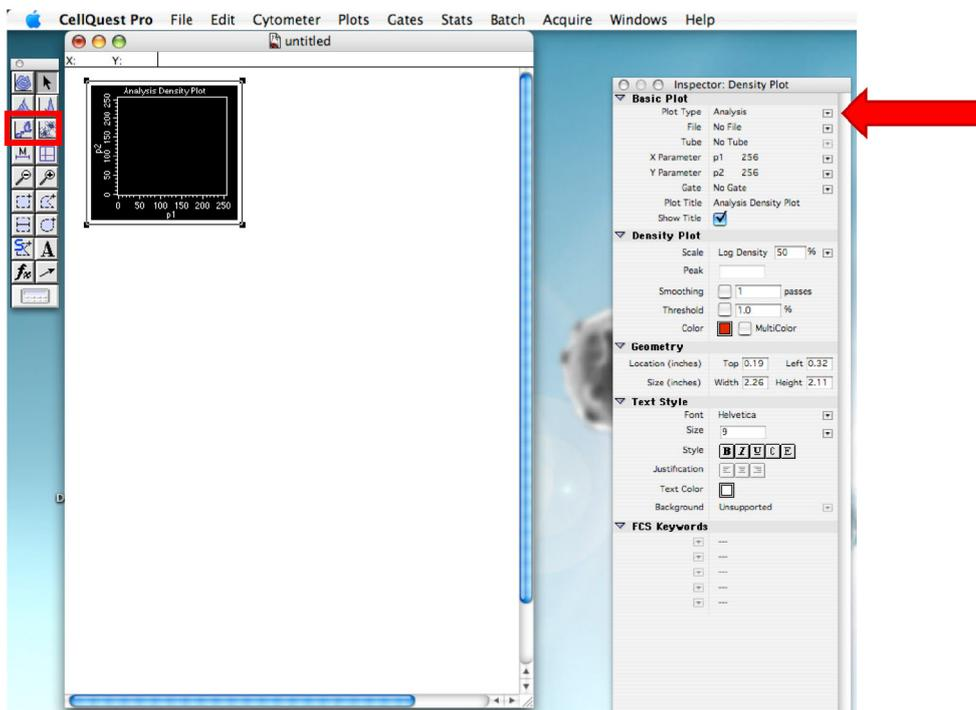

Figure 4. Plot creation. Make sure to change the plot type.
8. Draw a dot plot or a density plot and change the 'Plot Type' to acquire>>analysis (Figure 4).